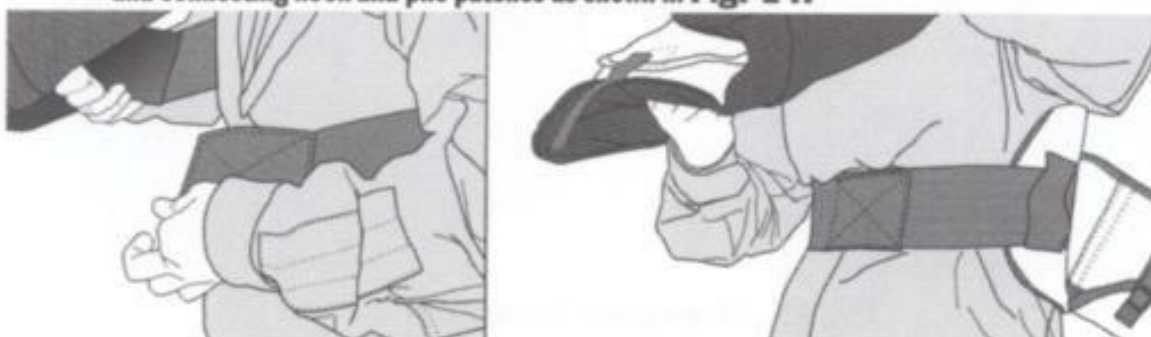

Fig. 14. Attaching the Elastic Waist Band.
5. Secure waist band by lifting Front Carrier and pulling two halves of the band forward and connecting hook and pile patches as shown in Fig. 14.